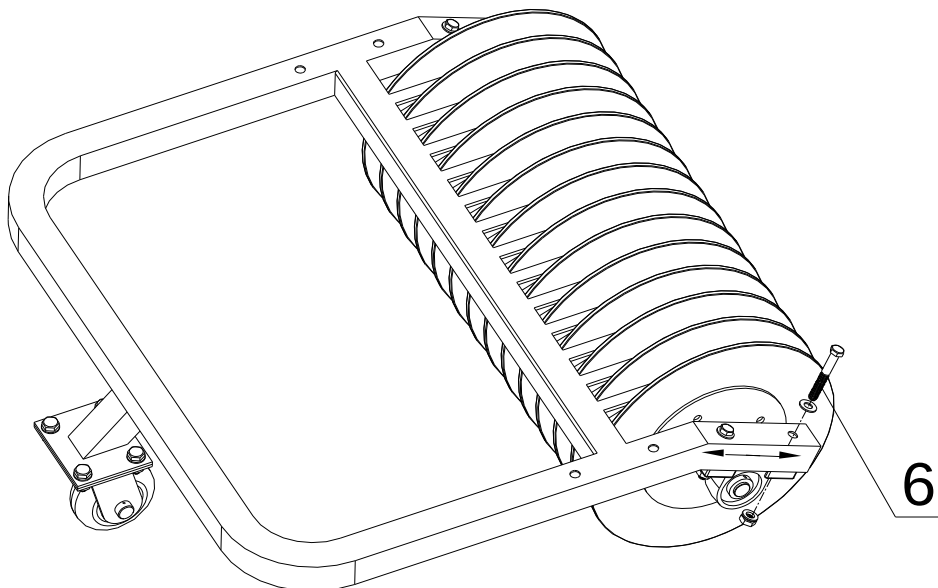

Figure 2
Step 3: Connect the Disc Spool (3) and the Section Frame (1) with four pairs of M10x80 Bolt w/locknuts, washer & spring washer (6). Adjust the space between the disc spool and the Ball Guide Fingers Plate. Screw the nuts and the holding screw on the bearing. See Figure 2.